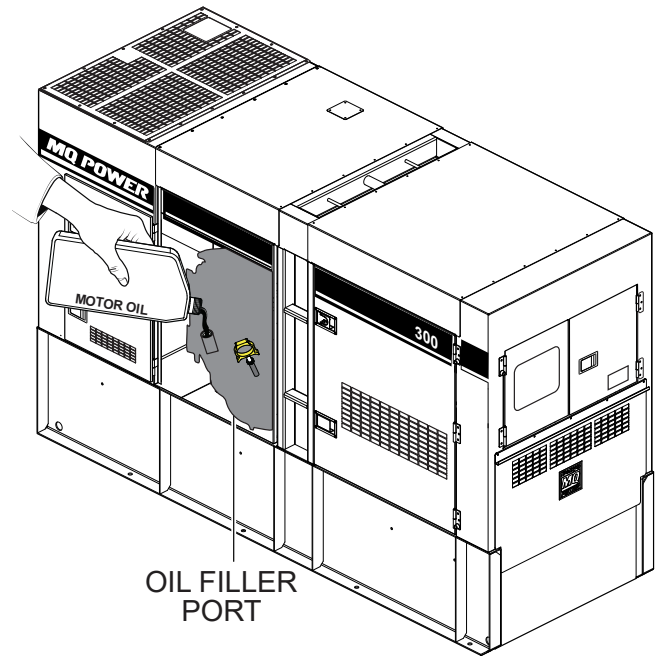

Figure 30. Engine Oil Filler Port
5. If the engine oil level is low (Figure 29C), remove the cap from the oil filler port (Figure 30) and fill to a safe operating level (max) as indicated by the dipstick (Figure 29A). Fill with recommended type oil as listed in Table 9. Maximum oil capacity is 37 quarts (35 liters).